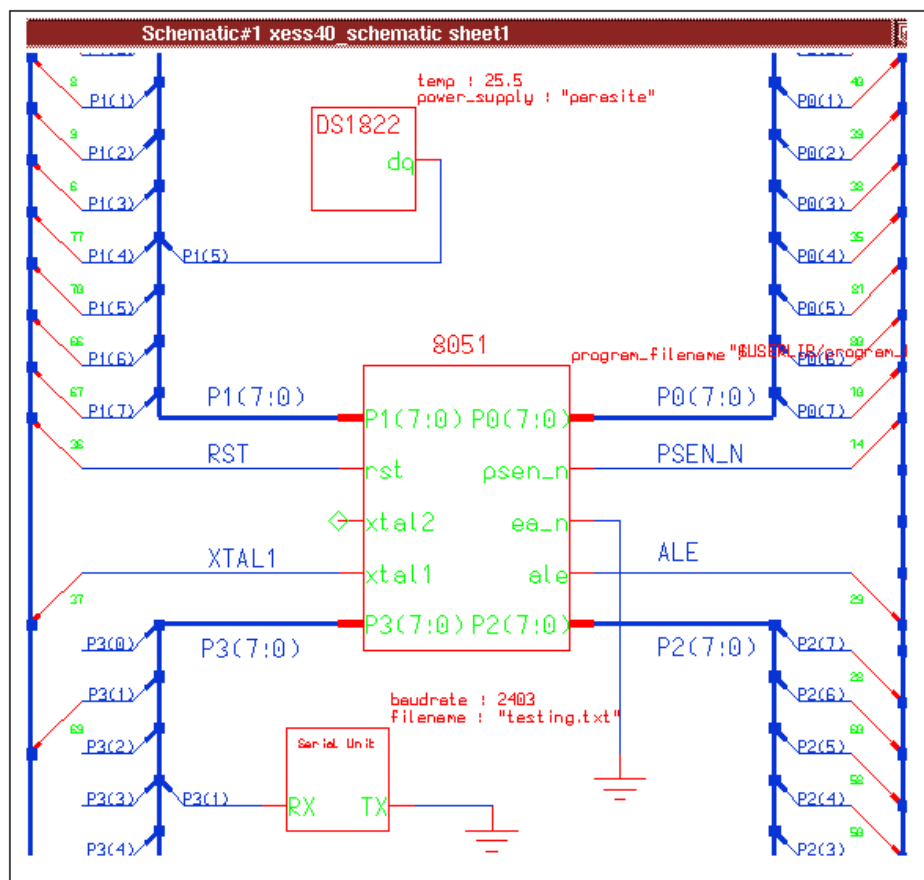

Figure 3. Top-level schematic
4. Build your simulation schematic as shown in Figure 3.